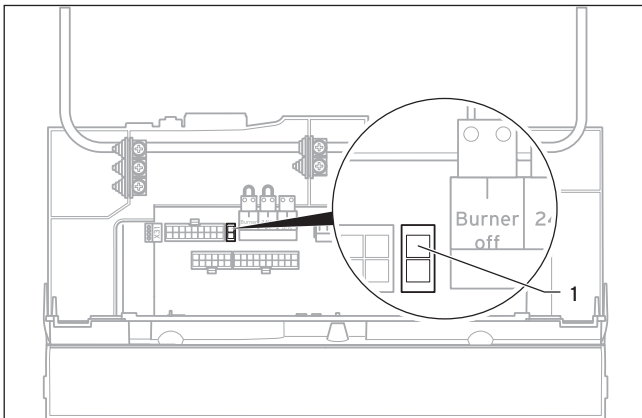

Fig. 2.4 Replacing the coded resistance
- Counter on the opposite side of the gas fitting with a flat spanner whilst tightening the union nut on the gas fitting (5) / (6).
- Unclip the rear cover (2) of the electronics box from the brackets on the electronics box (3).
- Remove the old coded resistance (1, fig 2.4).